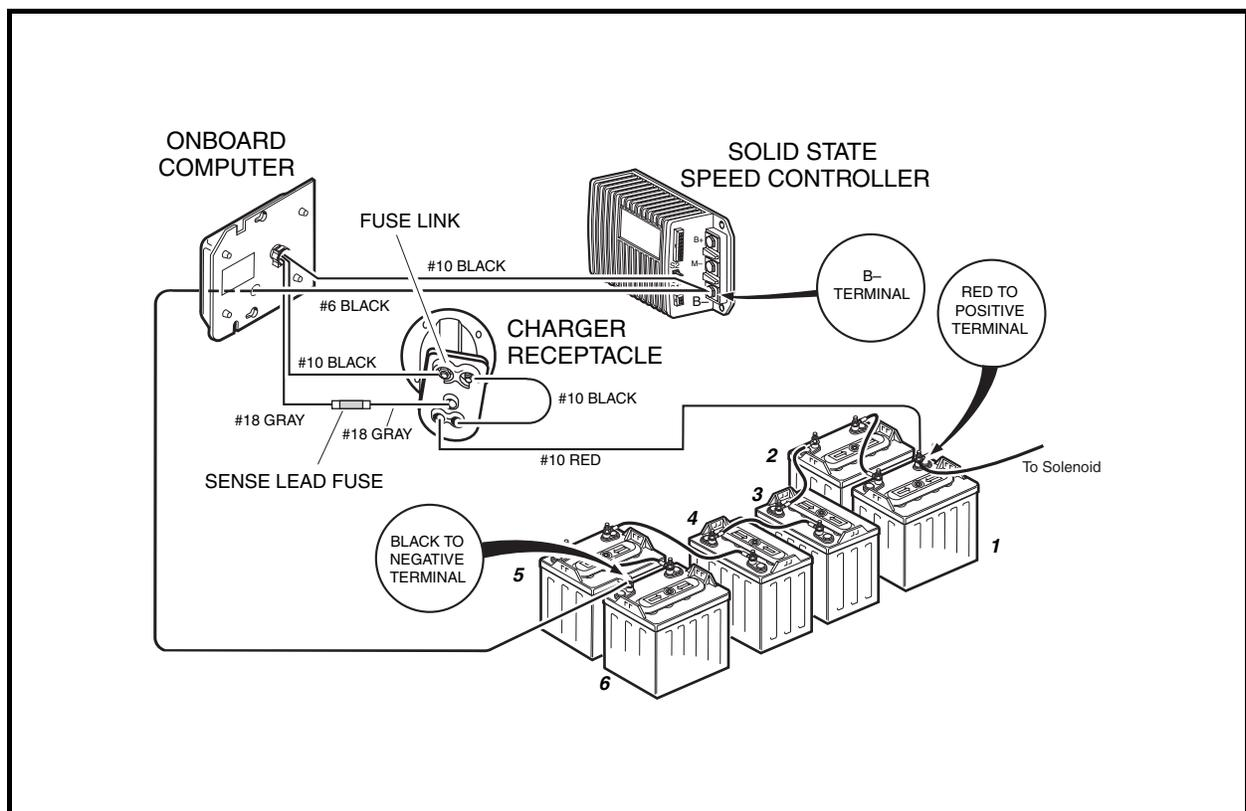
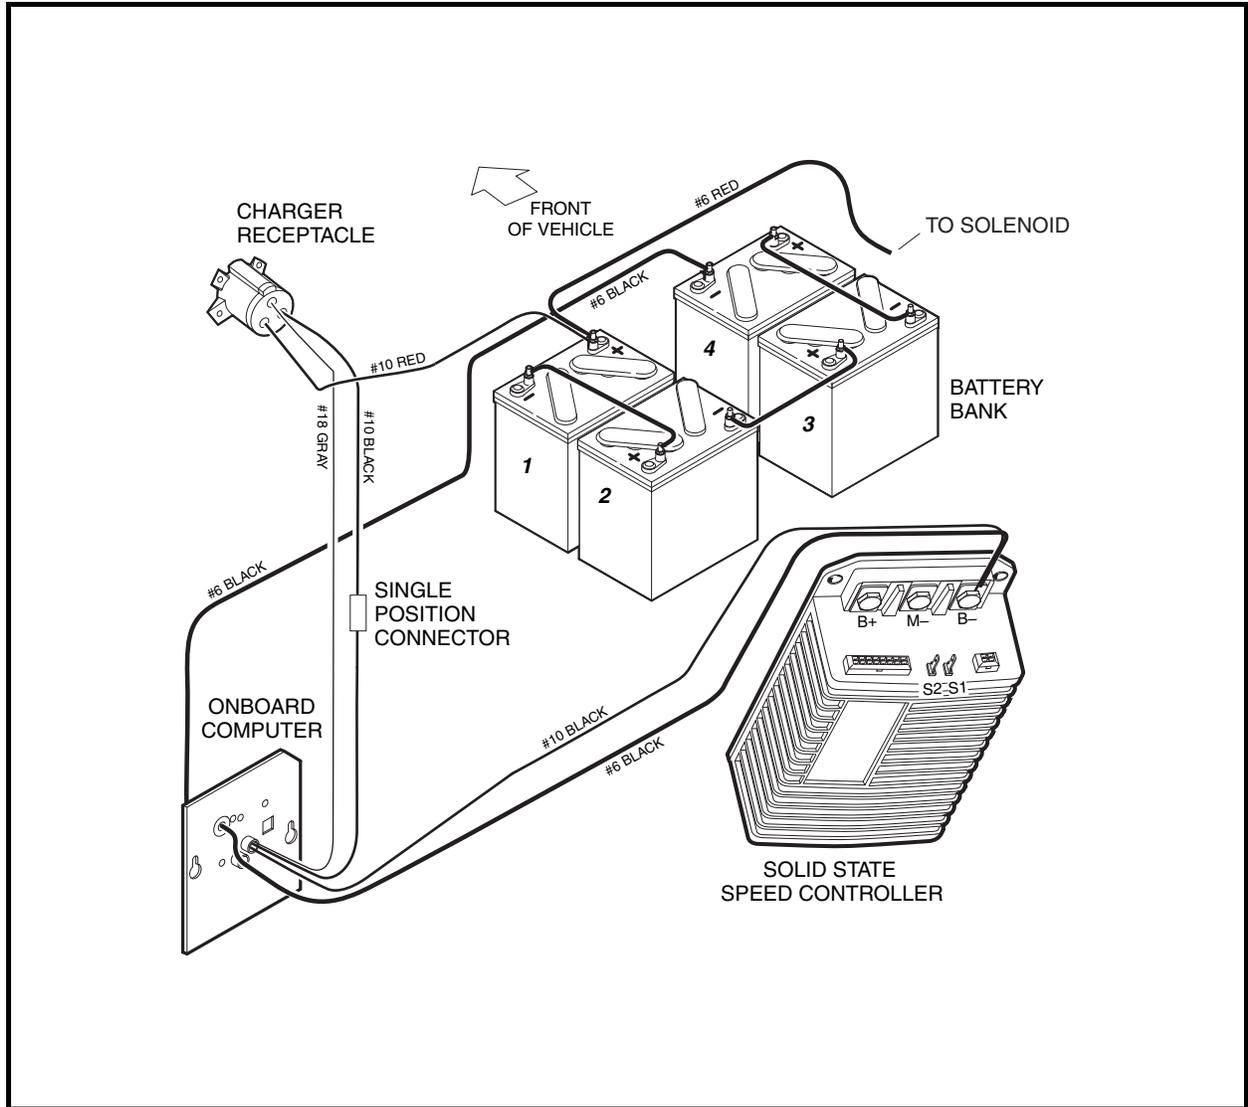
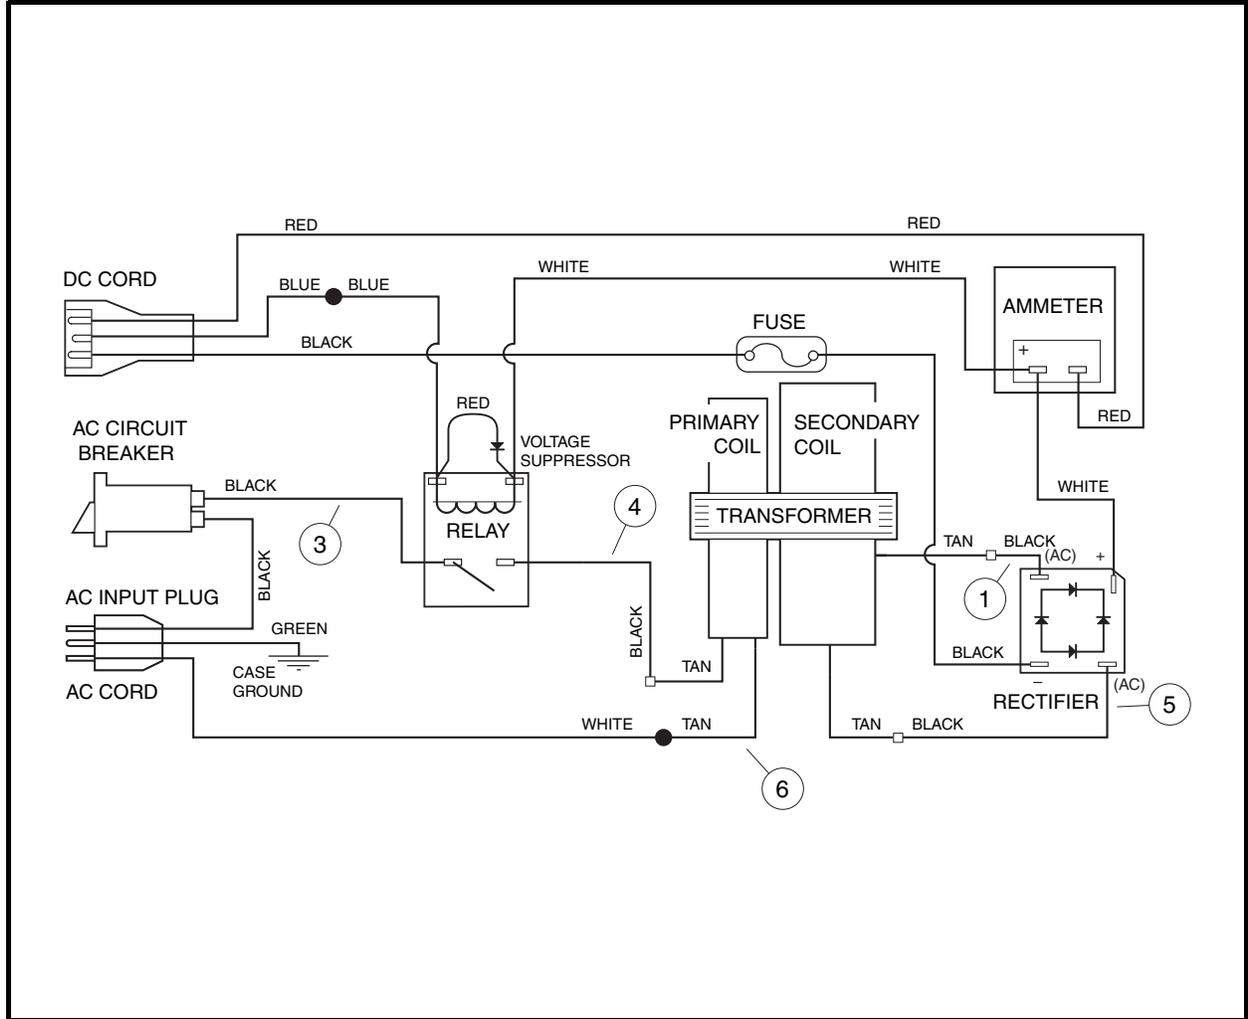

Figure 5-2 Charge Circuit and Battery Configuration – DS Vehicles
Figure 5-3 Charge Circuit and Battery Configuration – Precedent Vehicles
Figure 5-6 PowerDrive 2 Battery Charger Wiring Diagram (External Charger)
If the charger works with one vehicle, but does not work with another vehicle, then most likely the problem is in the vehicle charge circuit. Check the connections between the 18-gauge gray wire from the charger receptacle, the sense lead fuse (on all vehicles except Precedent vehicles), and the 18-gauge gray wire from the onboard computer. On all vehicles except Precedent vehicles, also check connections of the fuse link located on the charger receptacle (**Figure 5-2, Page 5-3** or **Figure 5-3, Page 5-4**).
3. If the charger does not operate exactly as described above, refer to the wiring diagram and make sure that the vehicle is wired correctly (**Figure 5-2, Page 5-3**) and that the internal charger wiring is correct (**Figure 5-6, Page 5-8**).
- Knowledge of battery charger wiring and component terminology is required before attempting any repair (Figure 5-6, Page 5-8).